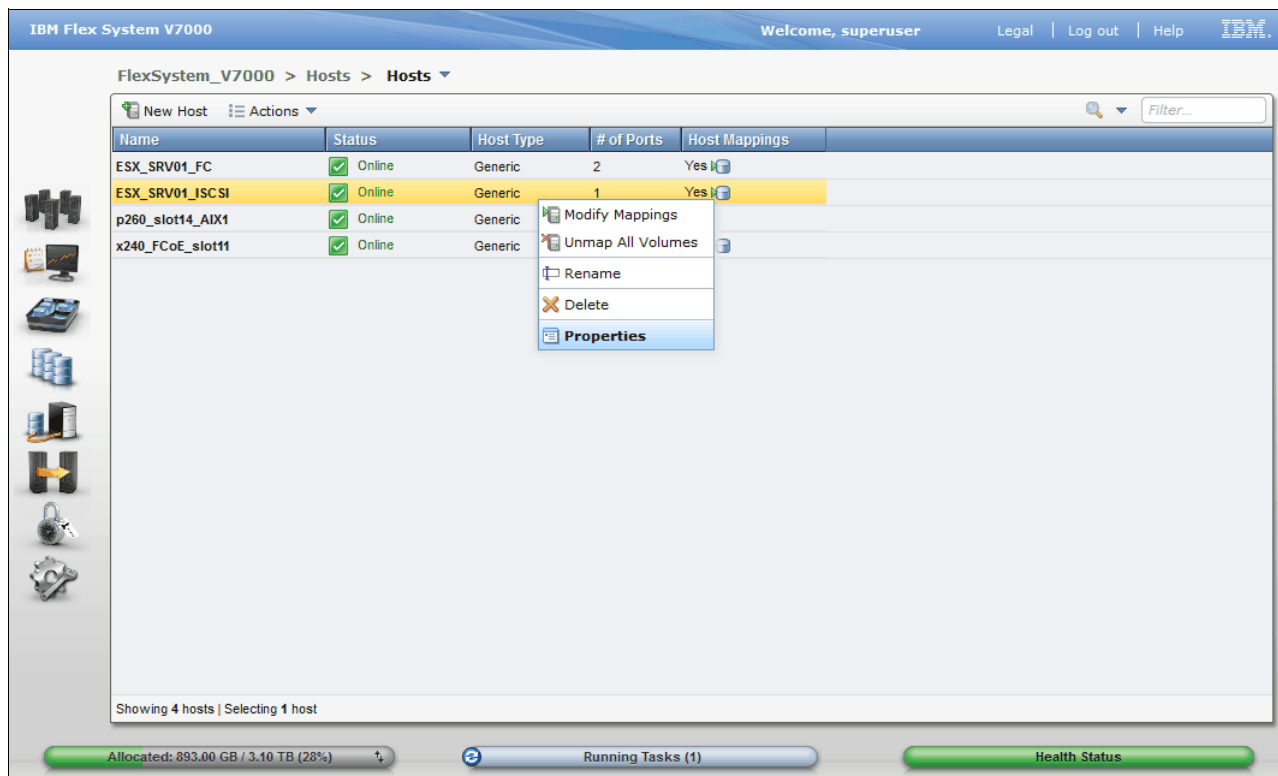

Figure 12-45 Select iSCSI ESX host properties
1. Right-click your VMware ESX Fibre iSCSI host in the All Hosts view (Figure 12-45) and select **Properties**.